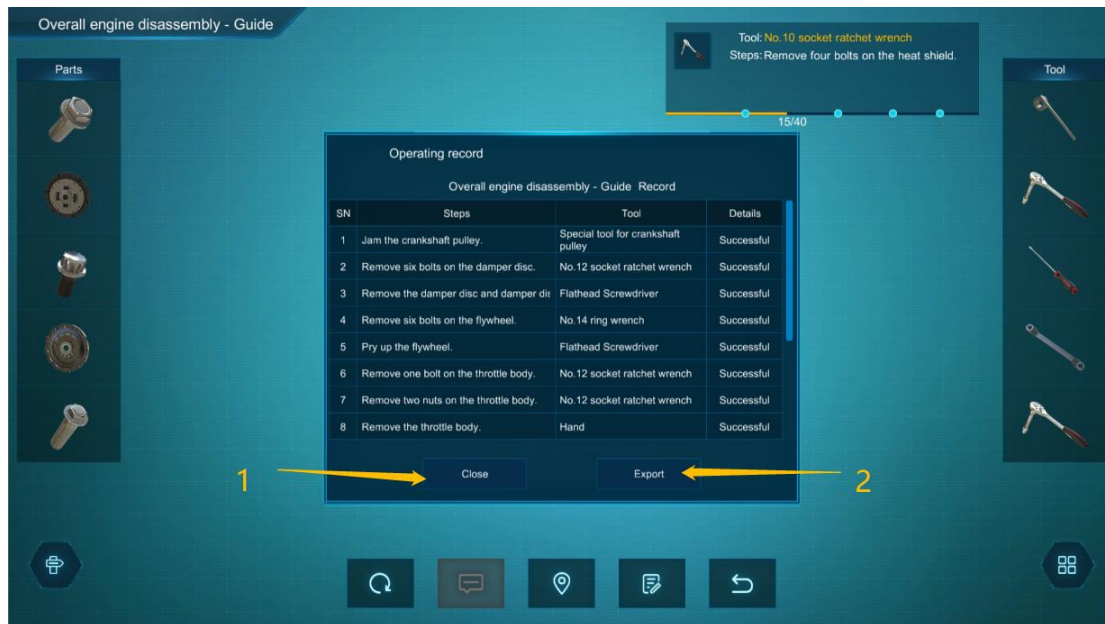

Figure 4-2-3-3c Illustration of operating record
9. The operating record is shown as figure 4-2-3-3c. Click on the "Operating Record" button to view all of the standard operating procedures or the records of operation completed.